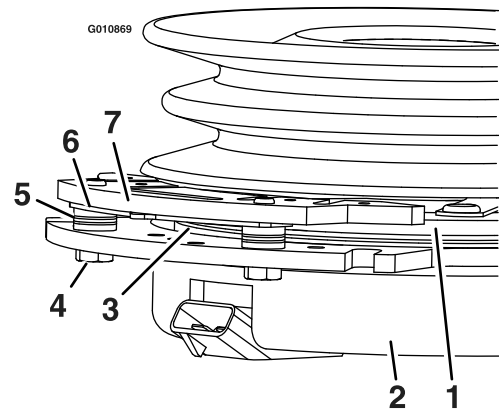

**Figure 68**
3. Remove the dust cap from the caster and tighten the locknut (Figure 68).
4. Tighten the locknut until the spring washers are flat and then back off a 1/4 turn to properly set the pre-load on the bearings (Figure 68).
**Important:** Make sure that the spring washers are installed correctly as shown in Figure 68.
5. Install the dust cap (Figure 68).